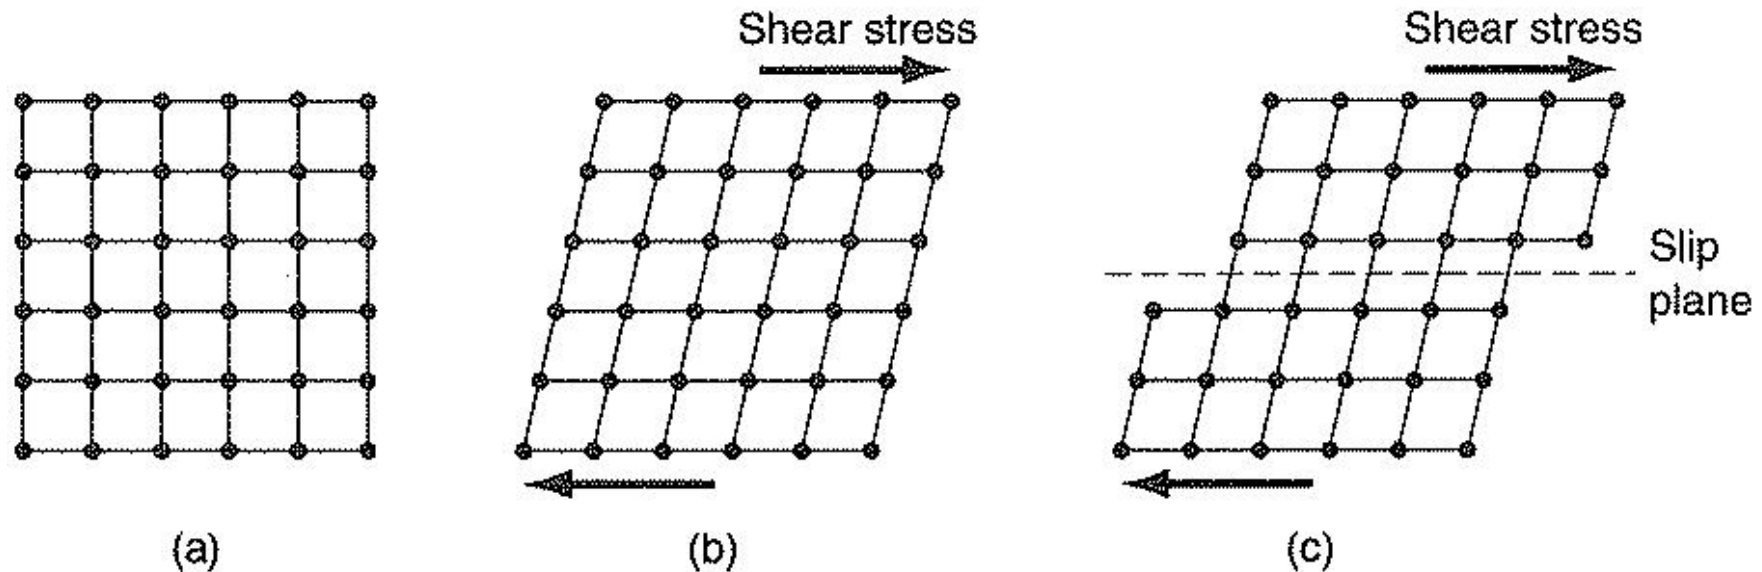

Fig. 2-16: (a) original crystal (b) elastic deformation (c) plastic deformation .
(1) Elastic deformation: that type of deformation where the lattice structure is being tilted without any changes of position among the atoms in the lattice (Fig. 2-16 a and b). If the force is removed, the lattice structure (and therefore the crystal) returns to its original shape.